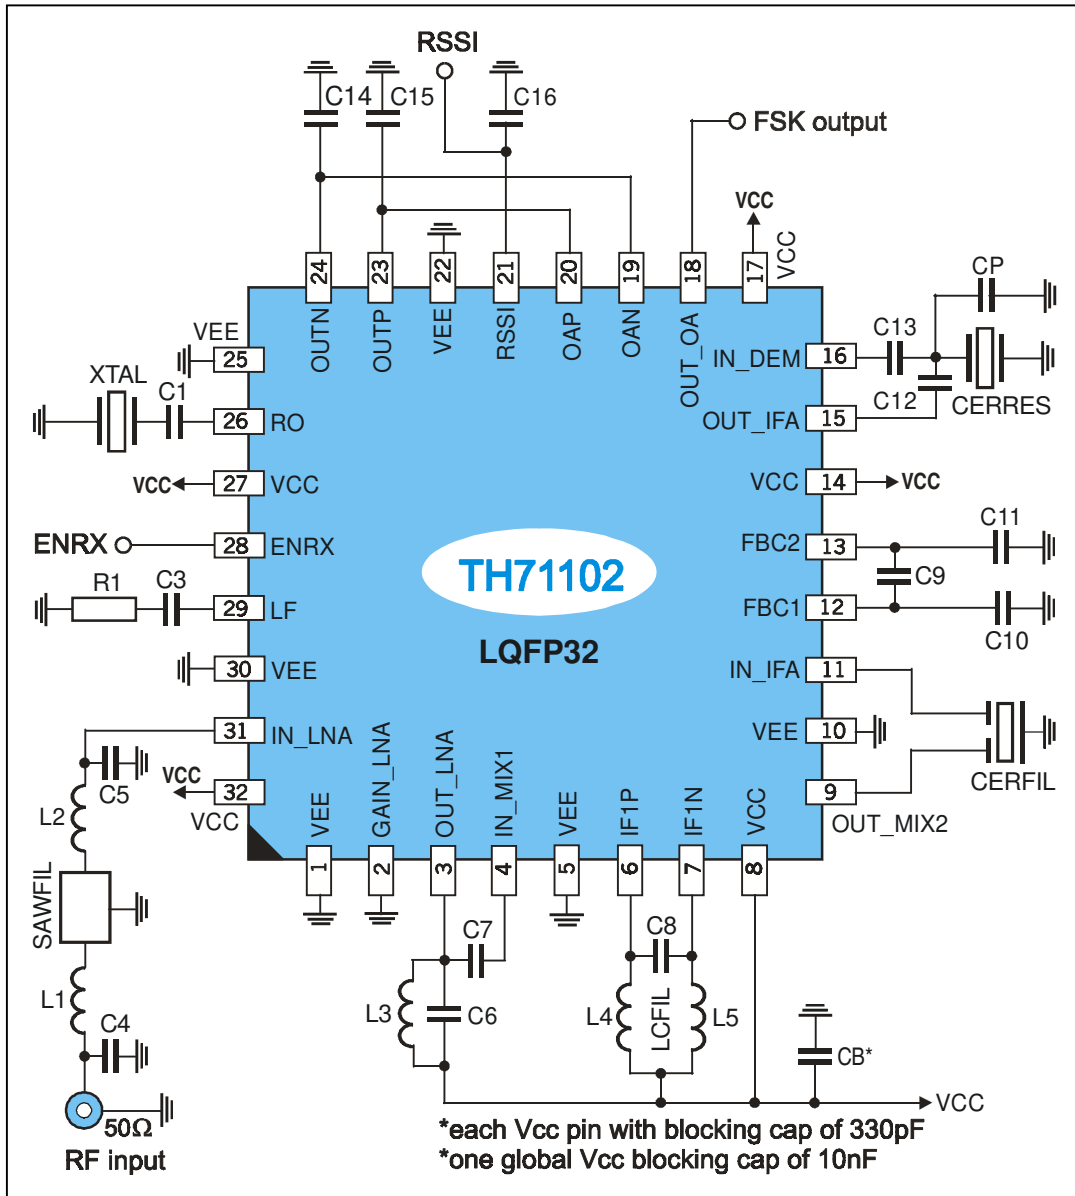

Fig. 2: Test circuit for FSK reception
all parameters based on test circuits for FSK (Fig. 2) and ASK (Fig. 4), respectively;
4.2 FSK test circuit component list (Fig. 2)